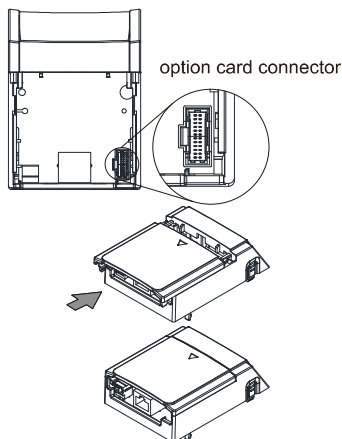

Figure 8-17
7. Attach the upper cover to the mounting box for the option card, as shown in Figure 8-17.